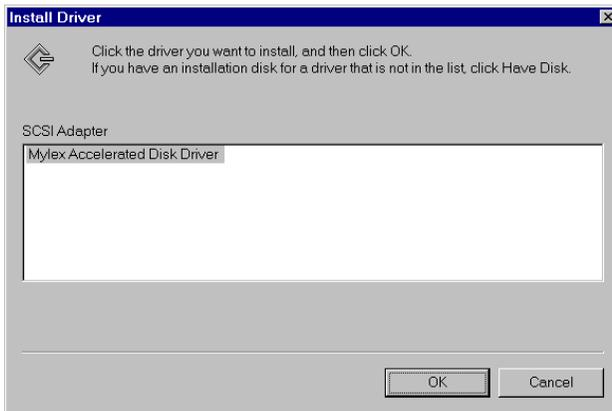

Figure 3-15. Select Mylex Accelerated Disk Driver
18. From the Install Driver box, be sure the Mylex Accelerated Disk Driver is selected and click OK (Figure 3-15).